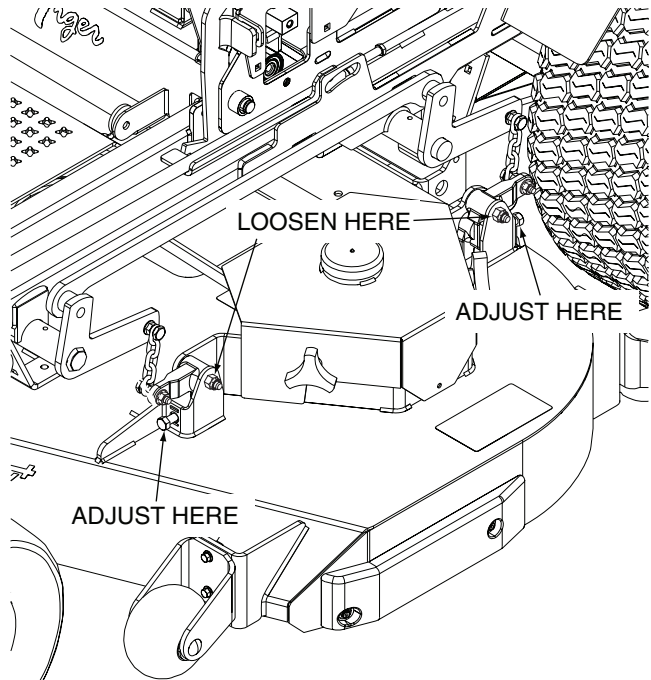

Figure 6-5. Cutter Deck Level Adjustment
1. If the cutter deck is lower on one side, loosen the elastic stop nuts securing the deck level links on the front and rear of the lower side. See Figure 6-5.
2. Turn the adjustment bolts on the front and rear deck level links clockwise until the cutter deck is level between both sides. See Figure 6-5
3. Tighten the two (2) elastic stop nuts to secure the cutter deck in the proper position.